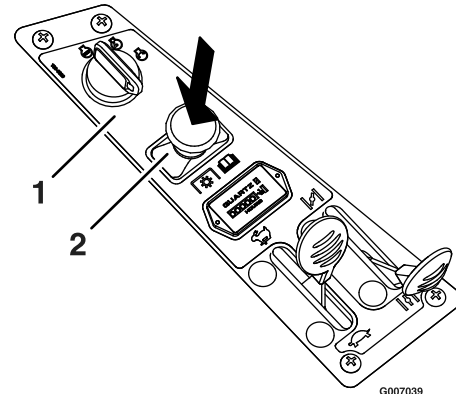

Figure 9
2. Disengage the blades by moving the blade control switch to Off (Figure 9).